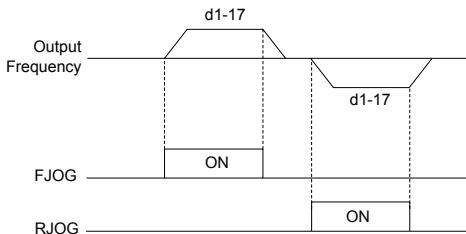

**Figure 5.48** Up/Down Command Operation
**Figure 5.48** shows an Up/Down function example with a lower frequency reference limit set by d2-02 and the frequency reference hold function enabled/disabled.